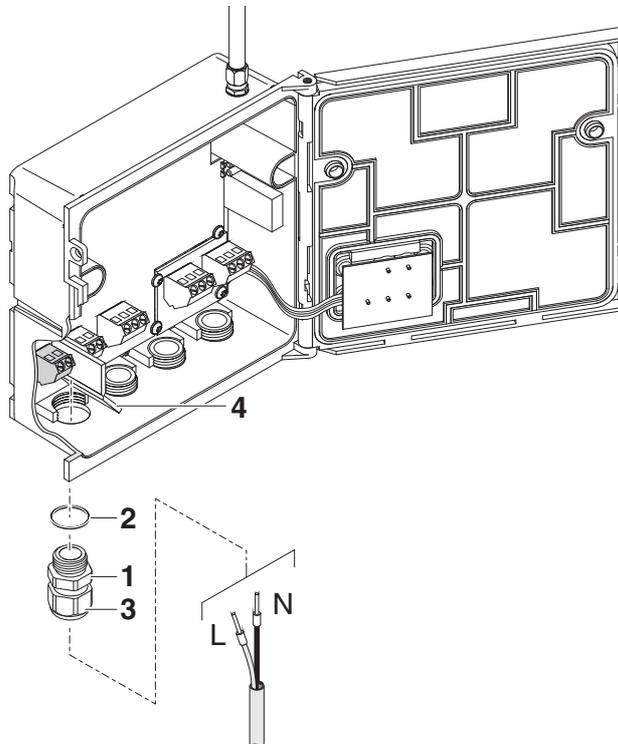

Fig. 3-12 Inserting the supply line.
| 6 | Screw a cable gland (pos. 1 in Fig. 3-12) with sealing ring (pos. 2) into the enclosure below the power supply connection.     |